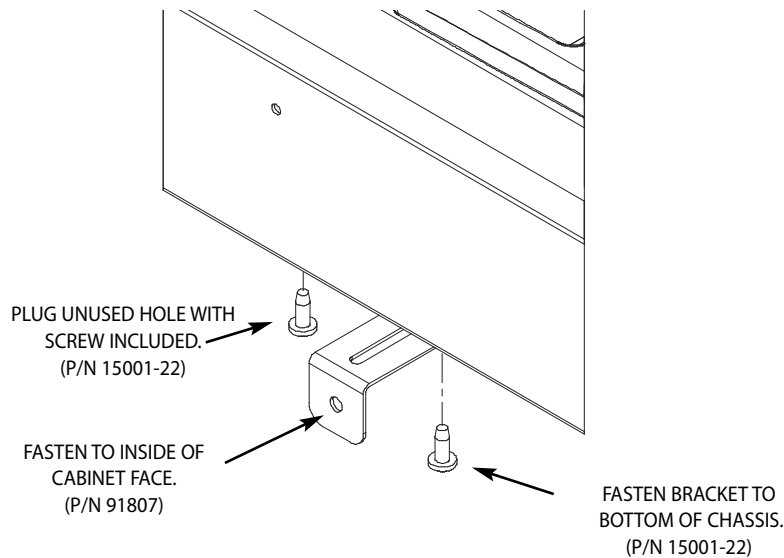

FIG. 3
*Some installations may not have adequate clearance at the front for the 'Z'-shaped retaining bracket. In those cases, use the 'L'-bracket provided. Fasten the bracket to the bottom of the cooktop chassis using one of the screw holes provided for the retaining brackets. Make sure the bracket extends out far enough to contact the inside of the cabinet face. While pushing down on the front edge of the cooktop from above, attach the bracket to the cabinet. This step will insure that the edge of the cooktop is flush with the counter surface. Plug the adjacent unused hole in the cooktop chassis with a screw. See Figure 3, page 8.*